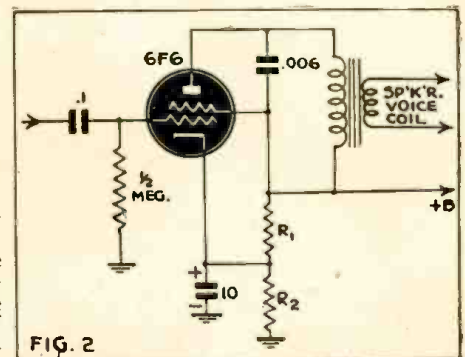
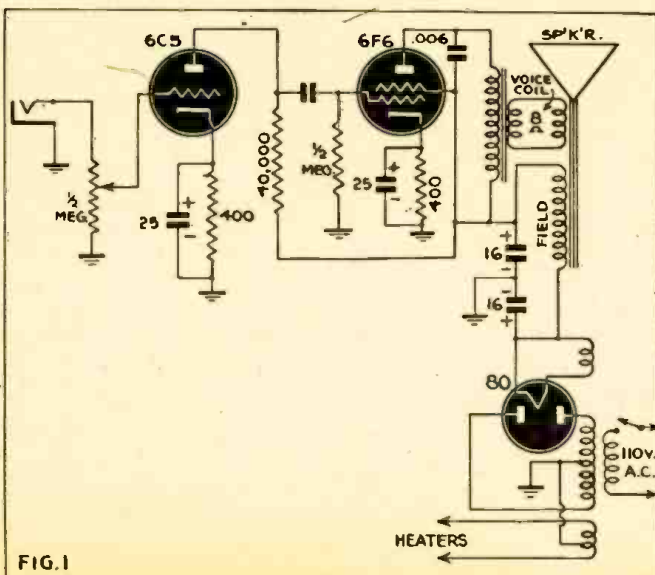
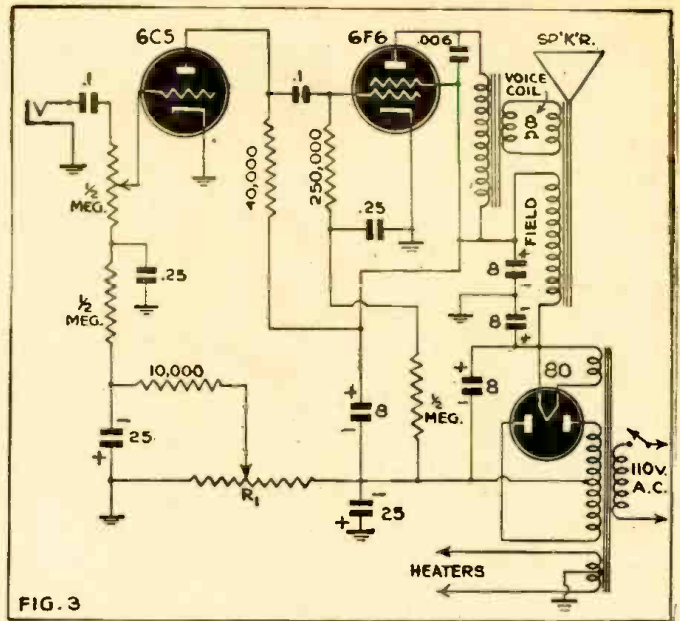
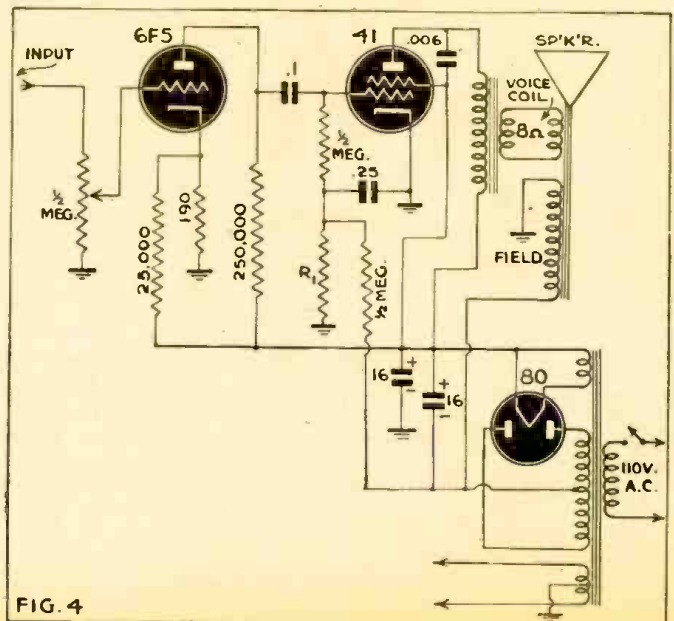

FIG. 2
FIG. 1
FIG. 3
FIG. 4
(1) The CURRENT FLUCTUATIONS in a half wave antenna may be represented by the vibrations of a stout rubber band held fixed at the ends and plucked at the center so as to vibrate as in FIG. 3-A. Our rubber band would, of course, have to vibrate a million times a second to really represent our 1000-kc. R.F. current.
In FIG. 3-A:
(2) VOLTAGE fluctuations in our wire may be crudely represented by screwing a thin steel strip (as used to hold large packing boxes together) at the center and setting both ends in vibration (Fig. 3-B). Our steel strip would have to vibrate a million times a second to represent adequately our 1000-kc voltage!
In Fig. 3-B:
Fig. 4—The electrostatic and electromagnetic fields around a vertical antenna during a complete cycle of R.F. antenna voltage and current, and below, the relative phases of voltages and currents setting up these fields.
alternating R. F. voltage alternates, and since these are the HIGHEST values attained by the voltage ANYWHERE along the whole wire, we see why it was that our neon lamps glowed most brilliantly at the ENDS of our wire (Fig 3-B).
Again at C, the voltage alternates through all values between "+G and -J volts" which limiting values are still less than the peak values at B. Thus we should expect a neon lamp here to be dimmer still, which was indeed the case (Fig. 2-B).
Fig. 3—Another view of current and voltage distribution. At A are shown the values through which current may pass during a cycle, at any point on the antenna wire. Similar voltage values are shown at B, while at C, the average current and voltage values are shown in single-line graphs.
It's ten to one that you used something like the circuit of Fig. 1 when you decided to build a phono amplifier with this magic tube with which to amaze your friends. This is the typical circuit we all know well.
Our primary aim, then, is to make the bias voltage completely independent of the tube to be biased. This is the primary feature of fixed bias. One way to do this is to connect the cathode of the 6F6 output tube of Fig. 1 to a point on a bleeder across the B+ supply (Fig. 2). One can see that through R2 we have two current components—the cathode current and the bleeder current. The cathode current is subject to the same variations as before but the bleeder current (assuming a decent power supply) is constant.
Second, the ordinary receiving type power tube has no critical grid impedance, and so we may forget about that. All we have to do is to unground the grid return of our 6F6 in the circuit of Fig. 1 (or of any other tube in a similar application—the 6F6 is here used merely as an example) and apply the right bias from the simplest source we find handy—anything that gives 22.5 volts and is stable. Some tubes, like the 6V6, have a fairly low maximum permissible grid resistance. The solution to this problem is merely to use transformer coupling.
One of the most widely used methods of biasing is the type using a resistor in the negative return of the power supply. It is the one found in 90% of the commercial A.C. sets. In this type, a resistor is inserted between the power transformer's high voltage secondary centertap and ground. The entire B+ current must pass through the resistor in such a direction that a voltage, negative with respect to ground, builds up across the resistor. By using the correct resistance value, the correct voltage for biasing the output stage may be obtained. Fig. 3 shows the circuit of Fig 1 adapted for this biasing system. The value of R1 may be determined as follows by applying Ohm's Law: If I_t represents the total current drawn from the power supply (including current drawn by any bleeders which some circuit other than that of Fig. 4 may use), then, for a 6F6 in class A1 (22.5 volts bias):
coupling resistor-condenser networks, to prevent the hum from reaching the grids of the audio tubes. Extra filtering is also required—note the two pairs of filter condensers in Fig. 4. Low supply voltage and additional difficulty in filtering the output of a half-wave rectifier make the system entirely impractical for A.C.-D.C. sets. It is cheaper to use two tubes in push-pull with cathode bias than to buy the condensers and find the extra chassis space required to bias a single tube by this method.
The commercial A.C. set designers have several tricks that the experimenter might well profit by to help him overcome the disadvantages while retaining all the advantages of this system of fixed bias. Fig. 4 shows the circuit of an audio system closely paralleling that of a G.E. set. The circuit was noted down while the set was in the author's shop for servicing because of the efficient way in which the type 41 operated and the neatness with which most of the undesirable features of the bias supply system just described were overcome. The main feature of the circuit is the substit-
Using the necessary voltage drop across the speaker field coil to supply negative bias voltage make this a more efficient circuit than that of Fig. 3. Fair power levels may be attained with this hookup.
This tangency tracking error can be minimized by using a pick-up with a stylus head off-set about 30 degrees or so. A medium-sized arm with a tangent off-set head used on a standard-sized recording will result in only about one or two degrees of tracking error. When a longer arm of about 12 or 14 inches is used with such a head, the tracking error is negligible. See Fig. 1 (a) and (b).